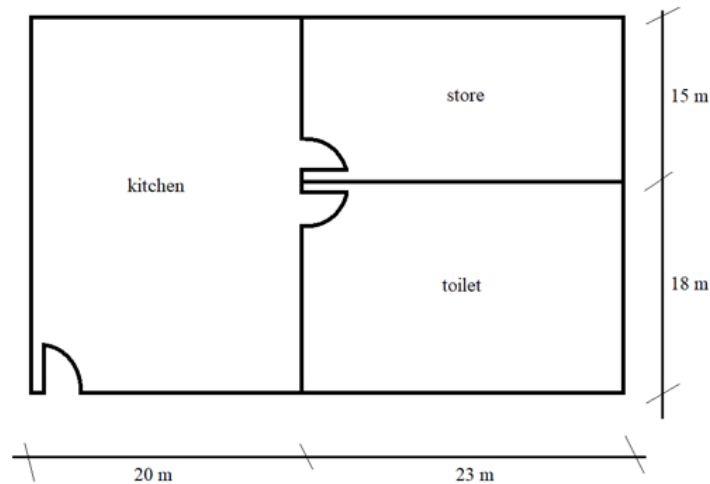

Figure B4/ Rajah B4
- (b) **Figure B4** shows the cafeteria layout plan that includes the kitchen, the toilet and the store. The ceiling height is 3.5 m. Assuming that the air change per hour (ACH) for the kitchen is 10, toilet 15 and store 8, calculate the air volume flow rate in CFM for each space.